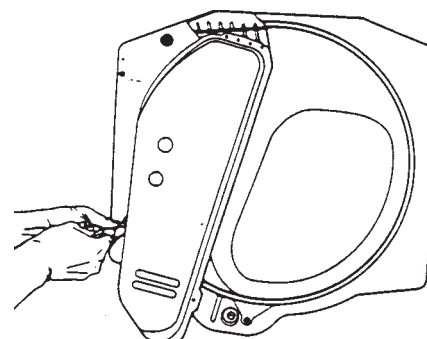

Fig. 4-31
1. Remove two screws attaching heat duct to rear bulkhead assembly. (Fig. 4-31) Remove heat duct.